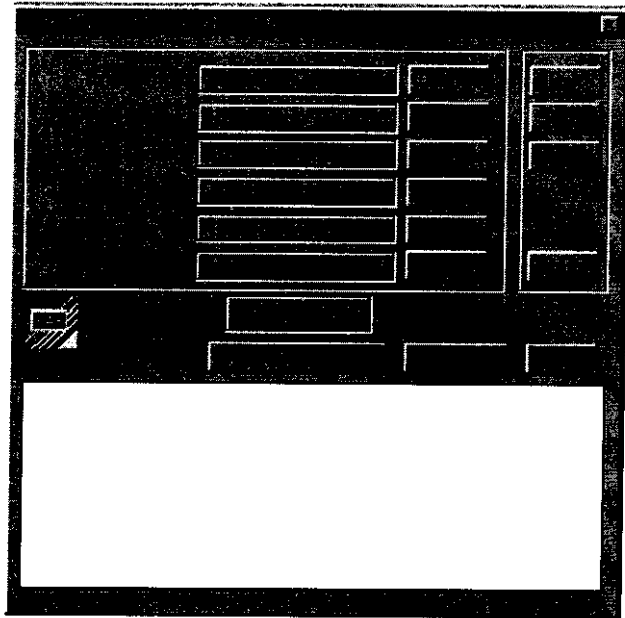

Fig 10 ACARS Only Virtual Front Panel
- Check that the VDL Virtual Front Panel is displayed (see Fig 10).